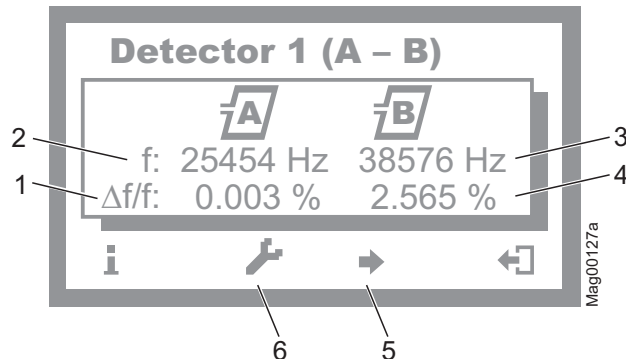

Fig. 53: Example "View – Menu Detector 1 (A-B)"
3. Press the left control button repeatedly, until the menu "Detector 1 (A-B)" is displayed. → See page 146, Fig. 53.